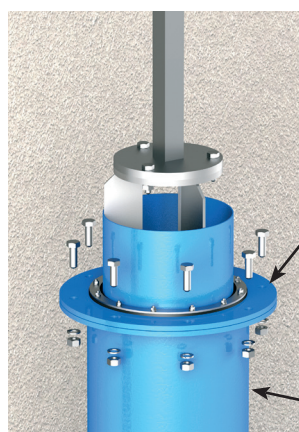

Fig. 10
3. Release and remove the bolts which secure the seal support flange (5) with the flange of the body (1) (fig. 10).